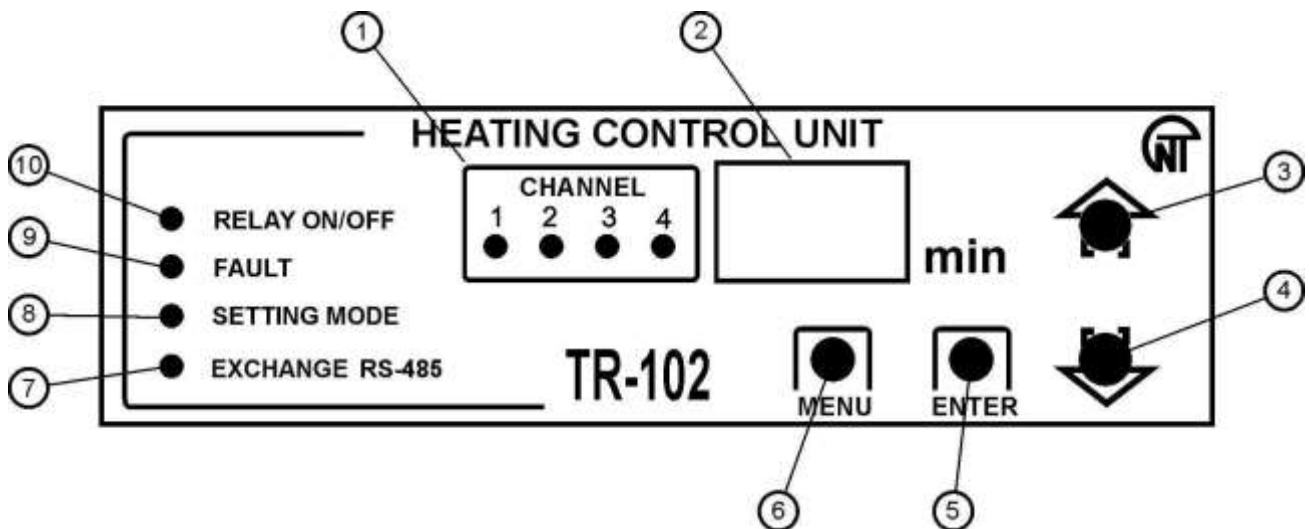

Figure 3.2 – TP-102 Front Panel
Figure 3.2 presents the TR-102 front panel exterior.
- To enter the parameter programming mode - press  key and hold it within 7 seconds, the “setting” indicator (fig. 3.2, 8) shall light.
- If the entered password is correct, the “Settings” LED will light, Figure 3.2 (8), and the display will present the first parameter from Table 7.1.
• If **PAS** has been set to “0”, password prompt will not be activated. “Settings” LED will light (Figure 3.2 (8)), and the display will present the first parameter from Table 7.1.